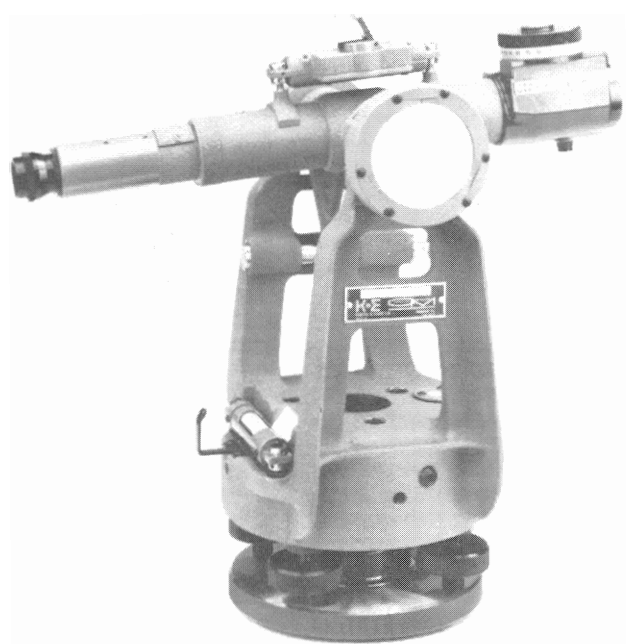

Figure 3. Jig Transit with mirror, micrometer coincidence level. Instrument used to measure horizontal displacement from a vertical plane.
3. The jig transit (Figures 3 and 4)